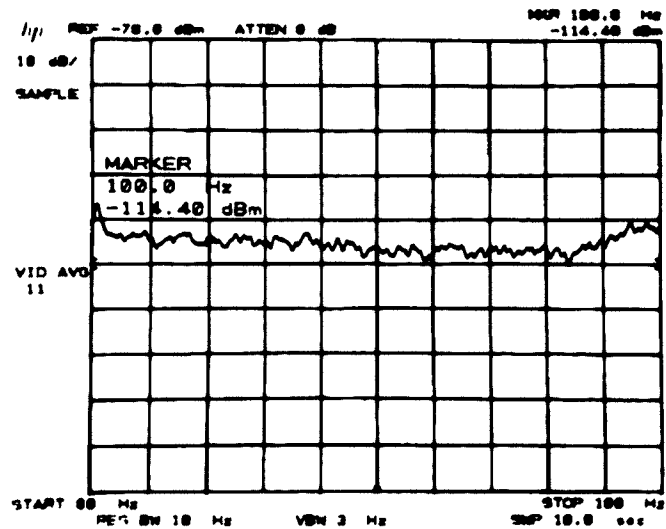

Figure 2-26. Average Noise Level Measurement
7. Press MARKER **(NORMAL)**. Tune to 100 Hz, or the nearest frequency that is not on the slope of the LO feedthrough or on a line-related sideband (e.g., 120 Hz). Refer to Figure 2-26.